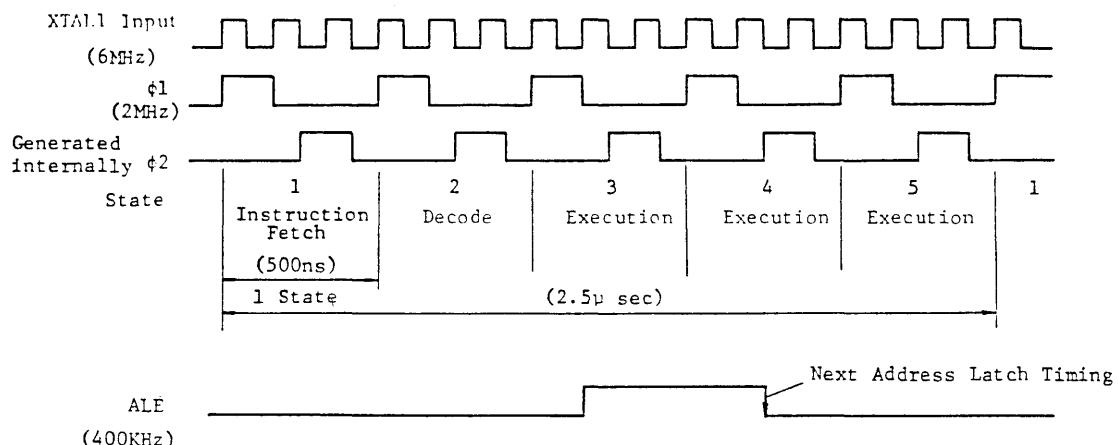

Fig.4 Instruction Cycle Timing
(1) Instruction Cycle
- . Fig.4 illustrates its relationship with the clock input to CPU.
- . ϕ_2 clock shown in Fig.4 is derived from outside by ENTO CLK instruction.
(2) External Memory Access Timing